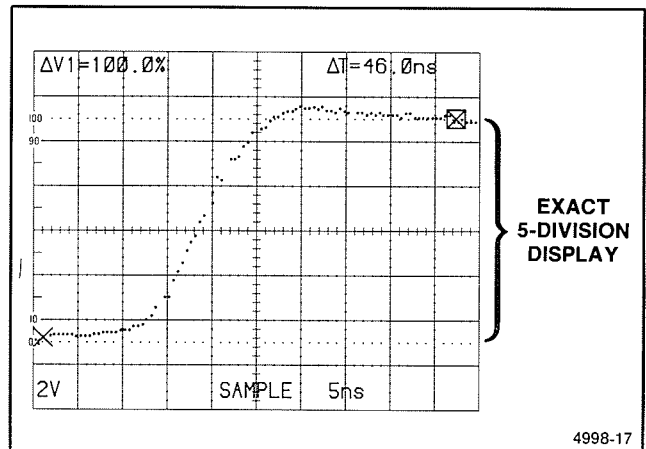

Figure 6-4. Rise-time setup, five-division display.
4. Set the SEC/DIV switch for a single-event display, with the rise time spread horizontally as much as possible within the viewing area. The waveform's maximum and minimum levels must still be visible (see Figure 6-4).